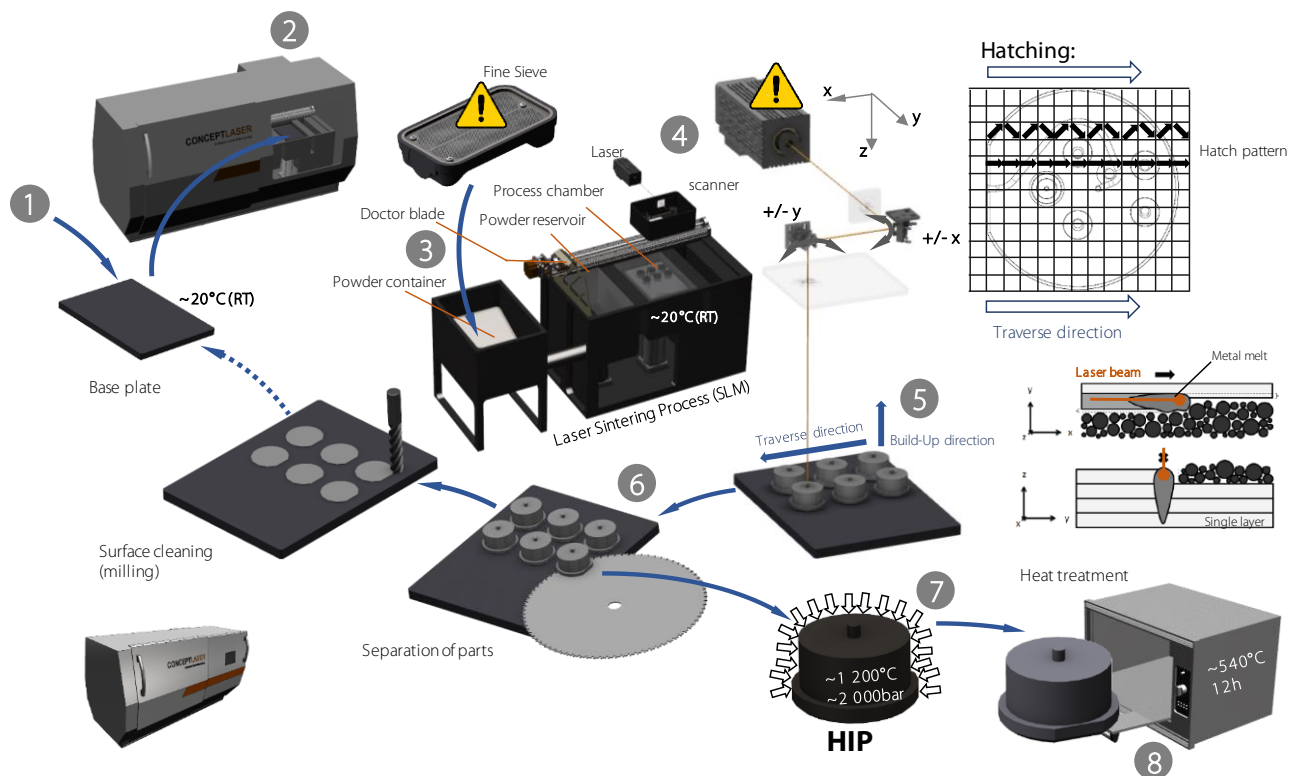

Figure 3: Process steps additive manufacturing
In laser sintering, metal particles are melted by laser energy and fused to form a printed part. The basic production process is shown in Figure 3. First, a base plate is inserted into the process chamber of the 3D printer (1). A powder storage (3) contains sieved metal powder which is conveyed to the powder reservoir of the process chamber. During building process (5), a squeegee is used to transfer the powder layer by layer to the process chamber where a laser beam, which is adjusted via a mirror mechanism, and the laser pulse melt the metal particles with a specific hatch pattern.